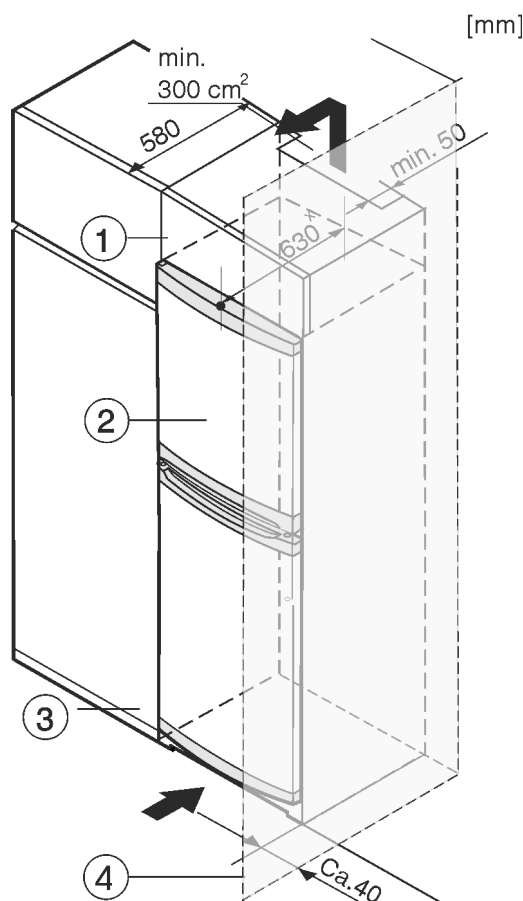

Fig. 8
- (1) Top cupboard
- (2) Appliance
- (3) Kitchen cabinet
- (4) Wall
The appliance can be built into kitchen units. A top cupboard Fig. 8 (2) can be added above the appliance in order to bring the appliance Fig. 8 (1) up to the height of the fitted kitchen units.
When fitting kitchen cupboards around the appliance (max. depth 580 mm), you can install the appliance directly next to the kitchen cupboard Fig. 8 (3). The appliance protrudes 34 mm * to the side and 50 mm * in the centre of the appliance in relation to the kitchen cupboard front.
If the appliance is set up with the hinges next to a wall Fig. 8 (4), the distance between the appliance and the wall must be at least 40 mm. This is how far the handle protrudes when the door is open.